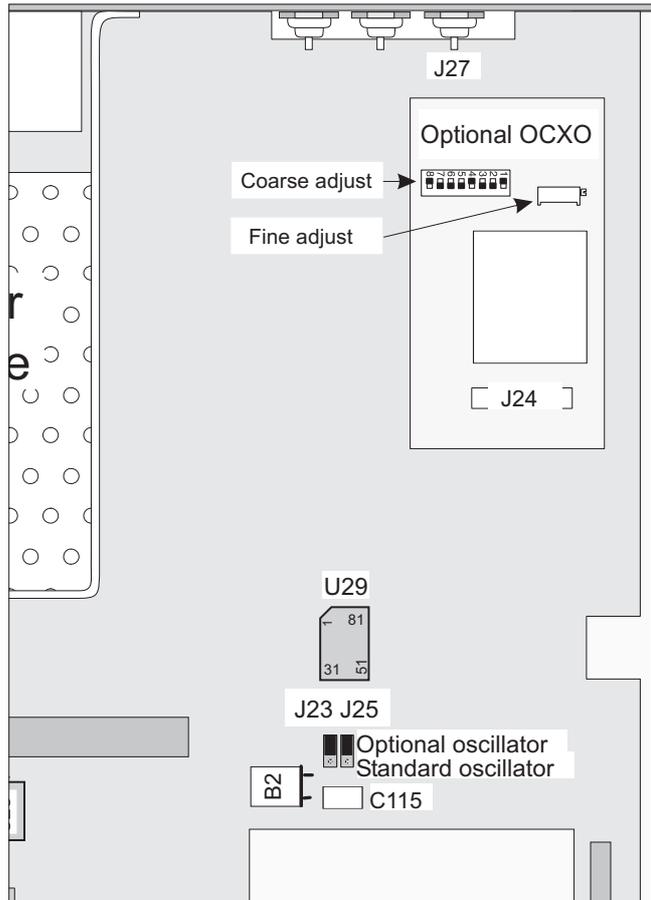

Fig 5-4 Trimmers for the reference frequency oscillators.
- Be sure the jumpers J23 and J25 are in the STD position, (see Fig. 5-4).
- Be sure the jumpers J23 and J25 are in the OPT position, (see Fig. 5-4).